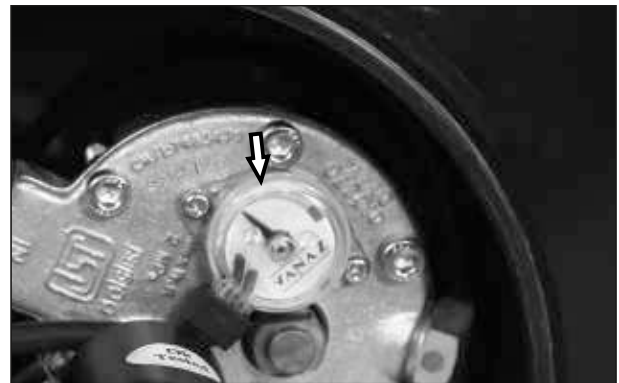

Fig. 6.69
- The float in the LPG cylinder operates the content gauge meter needle on multi valve, which varies the resistance in the switch on content gauge meter and accordingly varies the current supply to gas level indicator. Thus the number of LEDs lit varies according to the gas level. (Fig. 6.69)